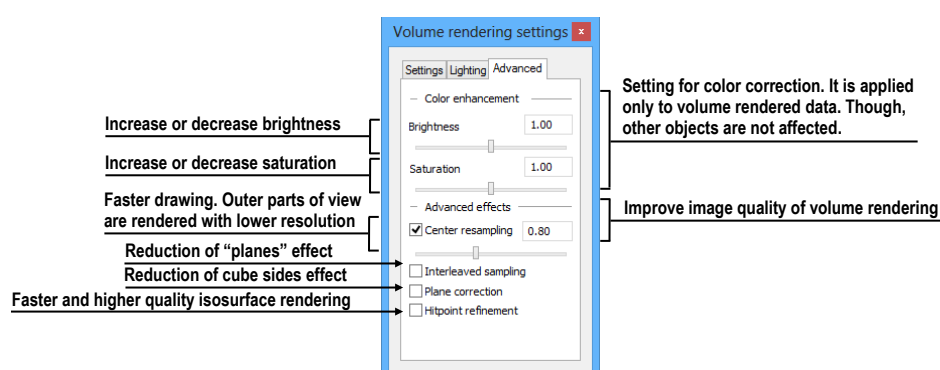

Figure 292 – Volume rendering settings, the third tab
- settings for color corrections and advanced ray casting settings on the third tab (see Figure 292)